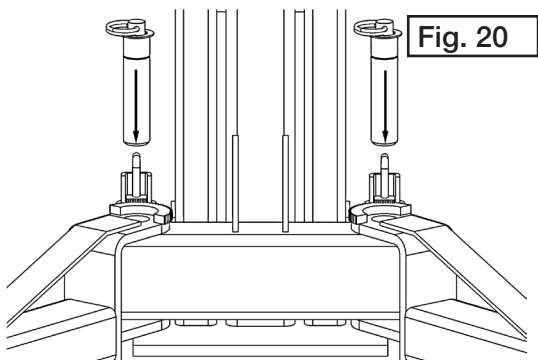

Fig. 20
1. Place the Lift Arm Assembly on the Lift Heads. Install the Lift Head Pins into the Lift Head and through the holes in the Arm Assembly then press the external c-clip into place on the arm pin. (See figure 20 / 21)